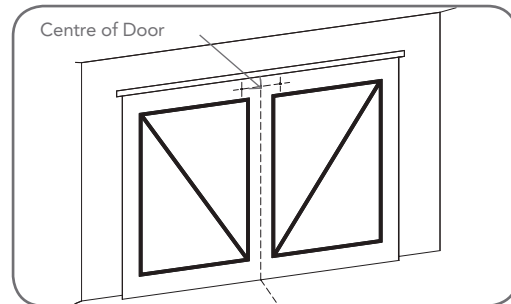

fig 10
Determine the centre of the door and mark this location on the wall above and on top of the door. Then draw two (2) lines 21.5mm on each side of the door. (Fig. 10).